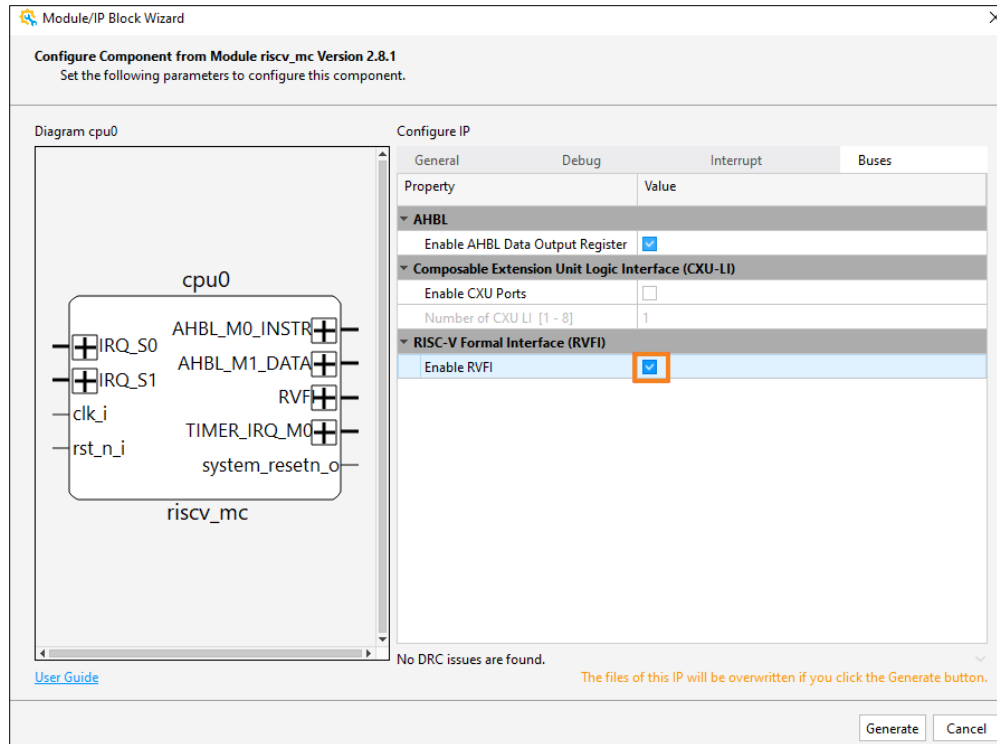

Figure 3.45. Enabling RVFI for MC CPU IP
1. When configuring the MC or RX CPU IP through Module/IP Block Wizard, select the **Enable RVFI** option under the **Buses** tab to export the RVFI interface (Figure 3.45).